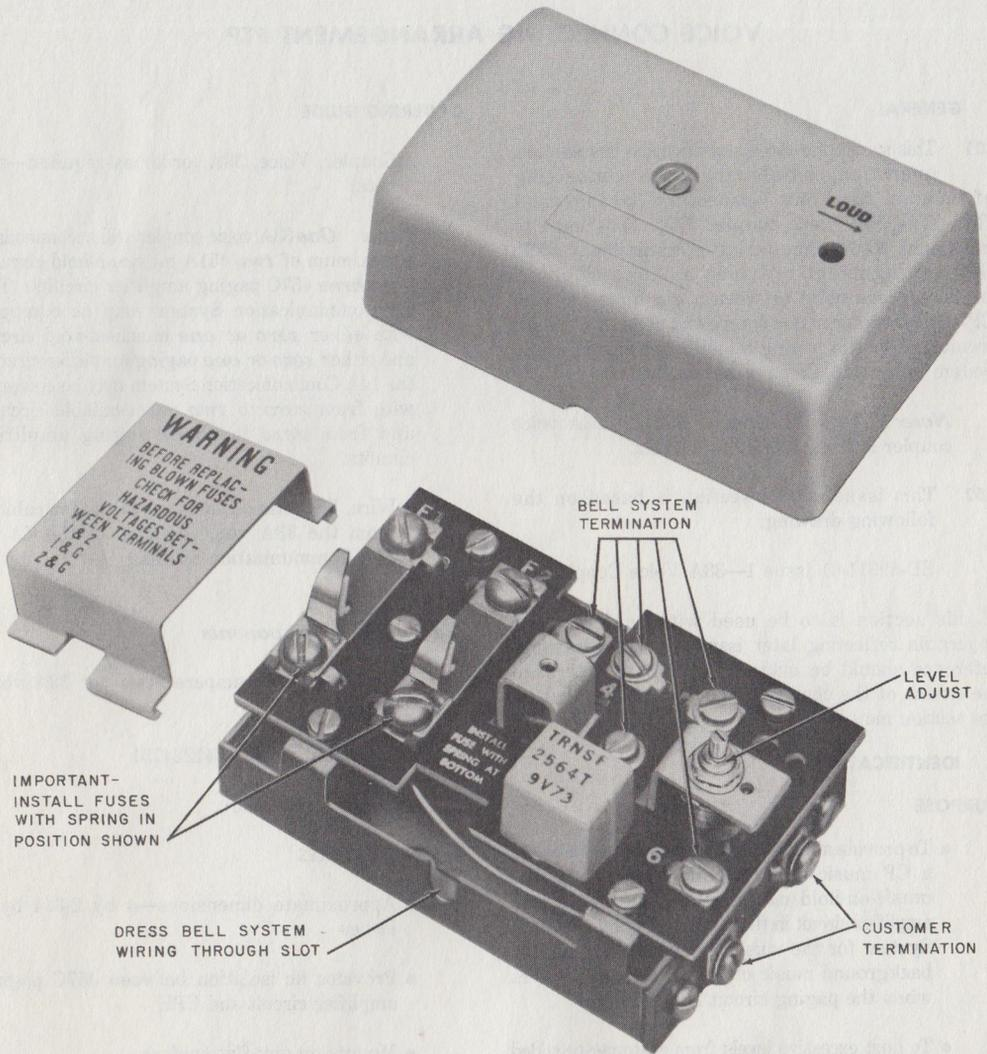
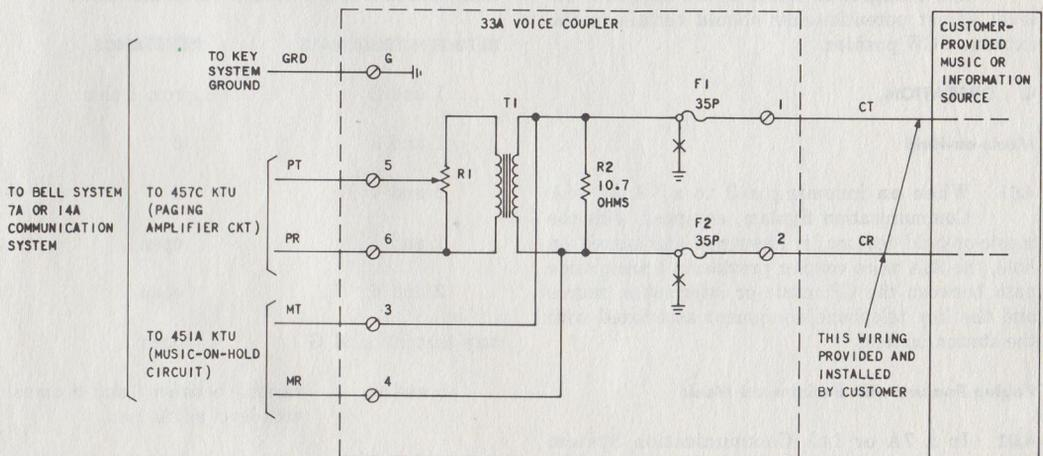

Fig. 1—33A Voice Coupler, with Cover and Fuse Guard Removed
Fig. 2—Connections—Voice Connecting Arrangement FTP
1.01 This section provides identification, installation, operation, maintenance, and connecting information for Voice Connecting Arrangement FTP. The 33A voice coupler (Fig. 1) is used to implement Voice Connecting Arrangement FTP. This arrangement provides a "high-fidelity" connection (see note) between a customer-provided (CP) music or information source and the music-on-hold circuit and/or the paging amplifier circuit in a Bell System 7A or 14A Communication System.
- Shorts primary winding of T1 to ground when fuses blow, to protect Telephone Company equipment—see Fig. 2
3.02 The voice coupler should be mounted as near as possible to the KSU in the 7A or 14A Communication System. If the installation is such that the distance between the CPE and the KSU is excessive, the longer leads should be the CP wiring between the CPE and the voice coupler (see Fig. 2). The length of these leads should be determined by the customer; the loop resistance of these leads should not exceed 50 ohms.
- (1) Remove the cover from the coupler.
- (2) Using two locally provided screws, mount the coupler on the designated surface. Two keyhole slots are provided in the base for mounting the coupler.
- (3) Make connections from the screw terminals on the coupler, using "G" station wiring or equivalent, to the 7A or 14A Communication System, as shown in Fig. 2. Dress the wiring through the slot in the side of the coupler—see Fig. 1.
- (4) Ascertain that the fuses are installed with the spring in the position shown in Fig. 1.
- (5) Replace cover.
- (6) Have the customer make connections from his music or information source to the screw terminals provided on the coupler.